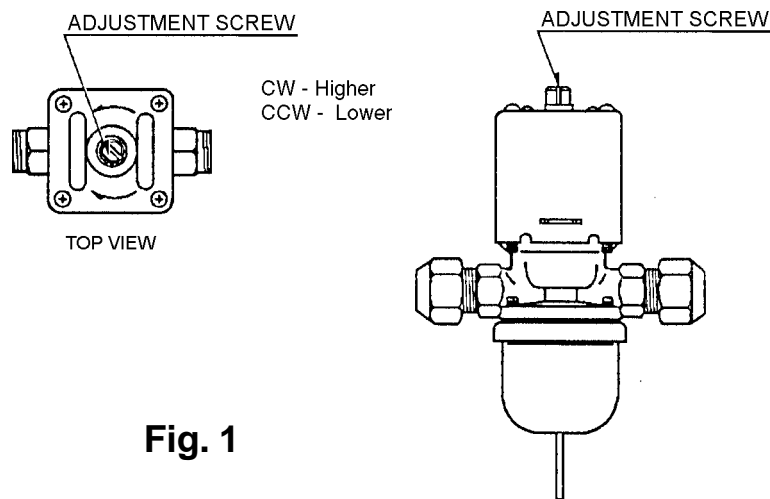

Fig. 1
- 2) Rotate the adjustment screw by using a flat blade screwdriver, so that the pressure gauge shows 280 PSIG or the thermometer reads 108–117° F, 5 minutes after a freeze cycle or icemaking process starts. When the pressure exceeds 280 PSIG, or the condenser drain temperature exceeds 115° F, rotate the adjustment screw counterclockwise. See Fig. 1 and the chart below.